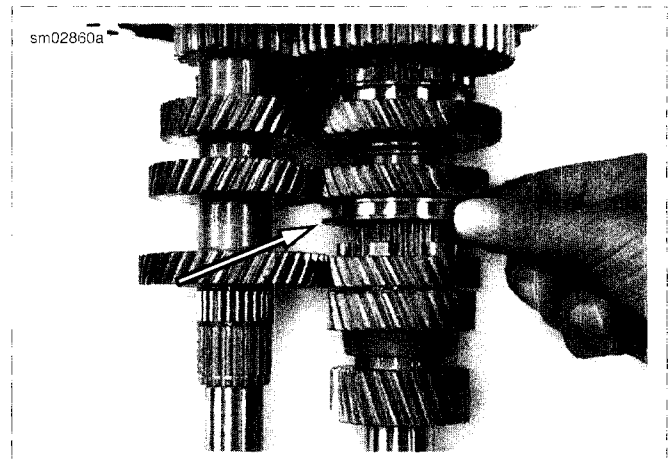

Figure 6-26. Raise and Hold Dog Ring
- See Figure 6-26. Hold dog ring so that it is engaged with countershaft 3rd gear during the press procedure. If press is performed with dog ring engaged with countershaft 4th gear, contact with mainshaft 4th gear will push shafts out of alignment and result in possible bearing and gear damage.